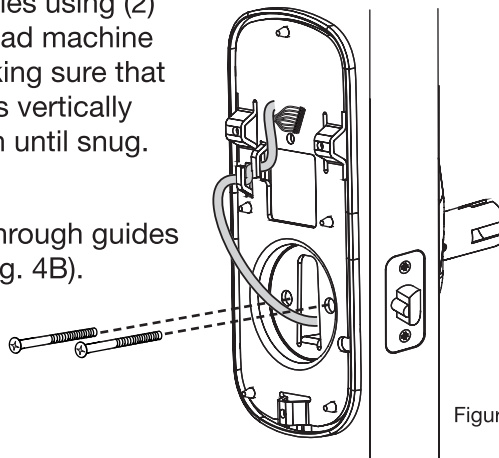

Figure 4B
5. Secure both assemblies using (2) M6 x 59.5mm pan head machine screws (Fig. 4B), making sure that outside escutcheon is vertically aligned. Hand-tighten until snug.
Route wire harness through guides on mounting plate (Fig. 4B).